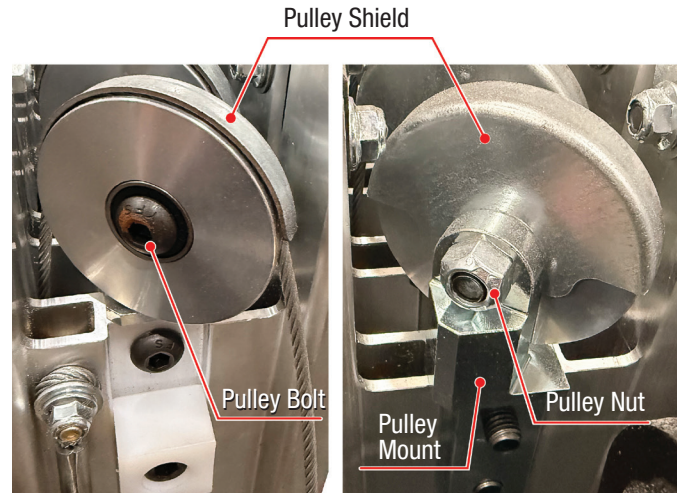

Figure 4-22: Replacing Top Pulley Assembly
2. Using a 5/16 in. hex wrench and 3/4 in. socket, remove the pulley bolt and nut (see Figures 4-22 and 4-23).